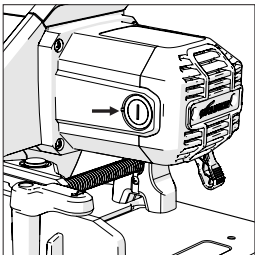

Fig. 19
- Unscrew the plastic caps found at the back of the motor. Be careful as the caps are spring-loaded. **(Fig. 19)**